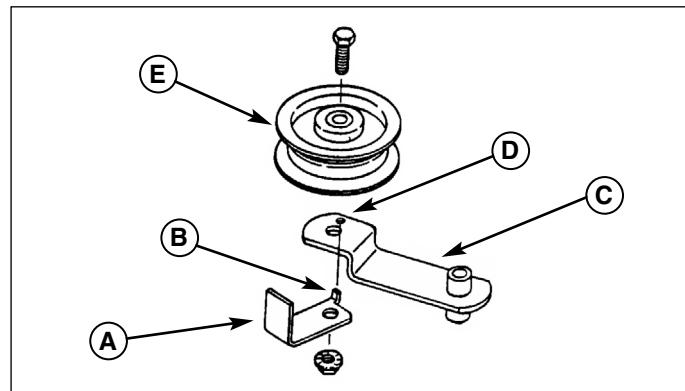

Figure 35. Belt Guide Locator Tab
*Note: The belt guide (A, Figure 35) has a locator tab (B) that fits into a corresponding hole (D) in the idler arm (C) and keeps the guide aligned correctly.*